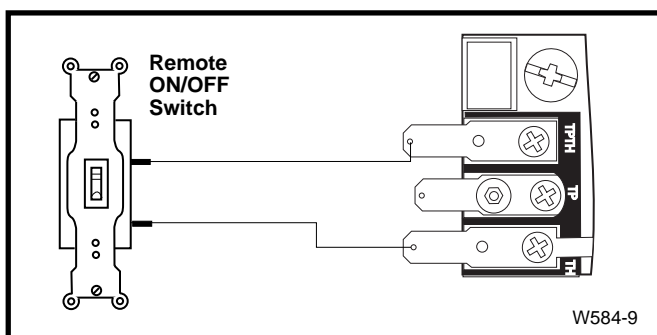

Fig. 7 Remote switch wiring diagram for R models.
3. Connect the wire to the gas control valve. (Fig. 7)